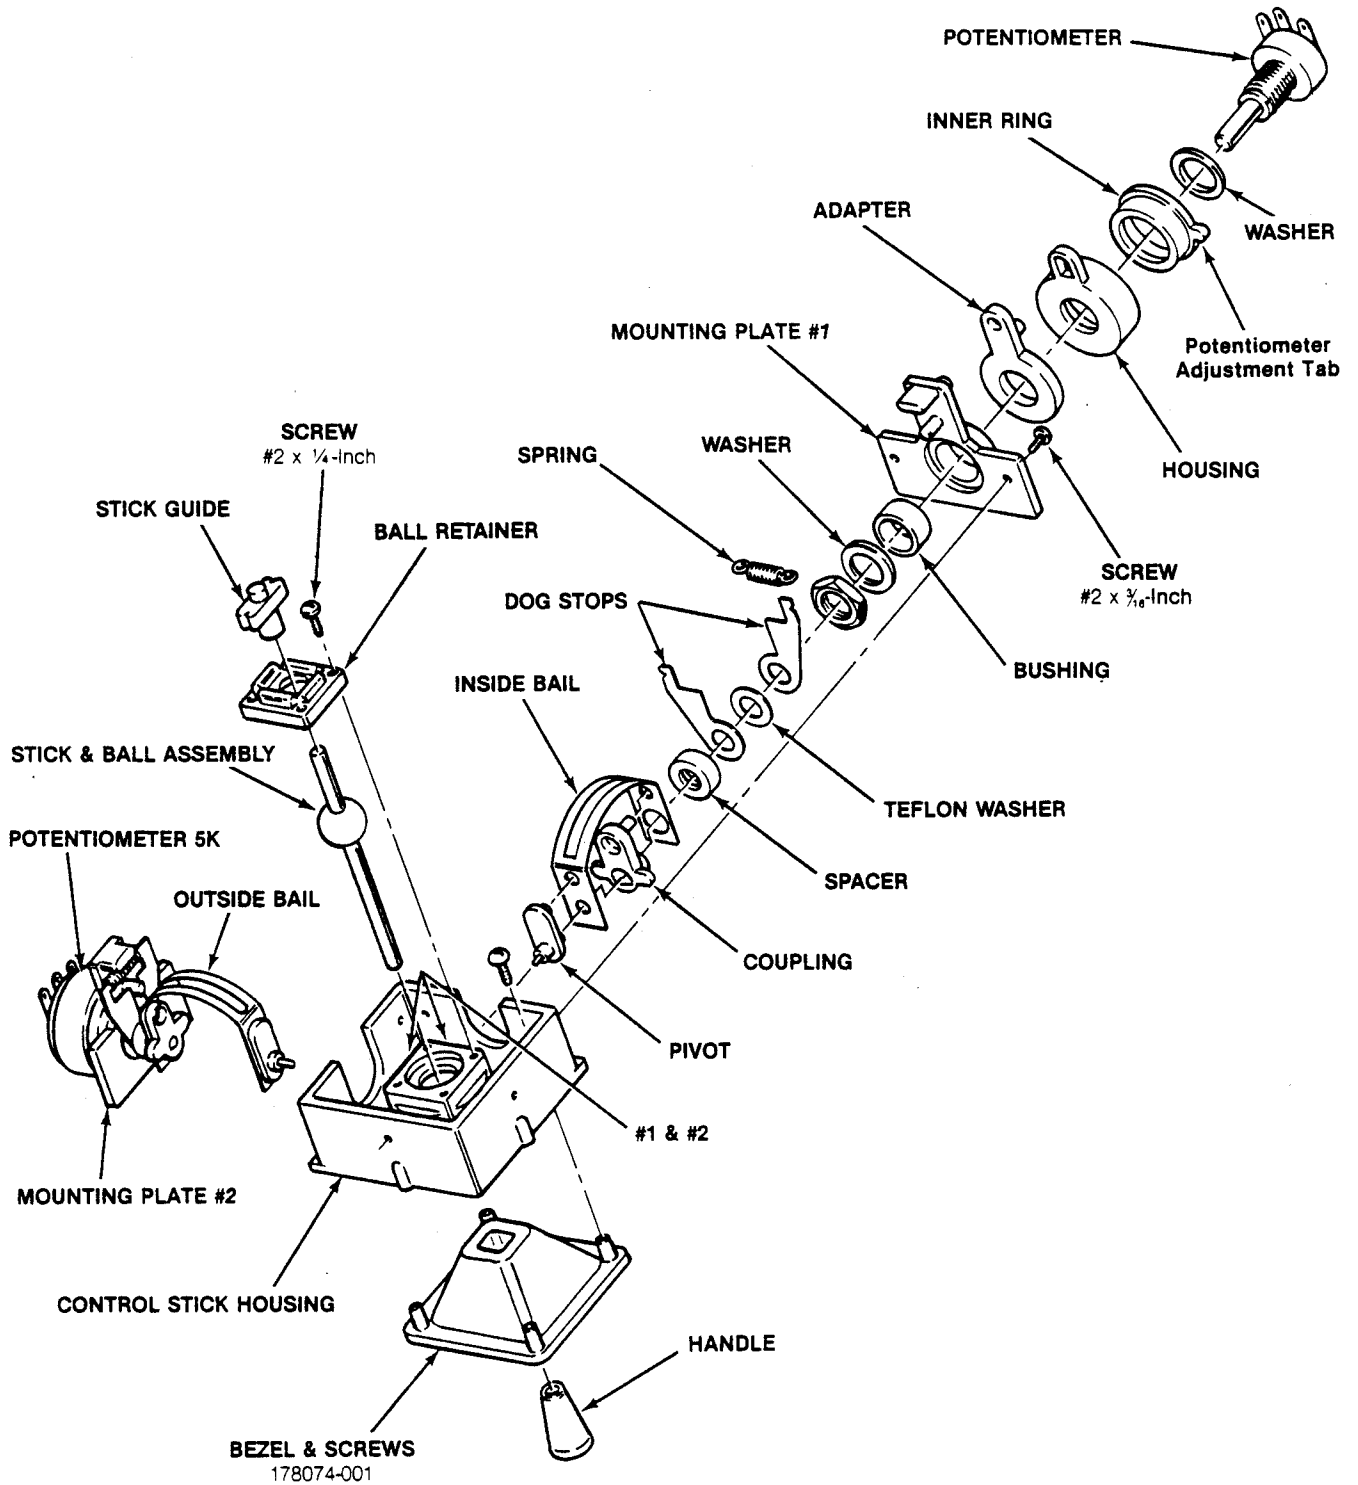

Figure 8-1 Joystick Control Assembly
1. Note the approximate position of the potentiometer adjustment tabs (see Figure 8-1 for adjustment tab locations), e.g., 12 o'clock, 1 o'clock, etc., before removing the Joystick Control Assembly.